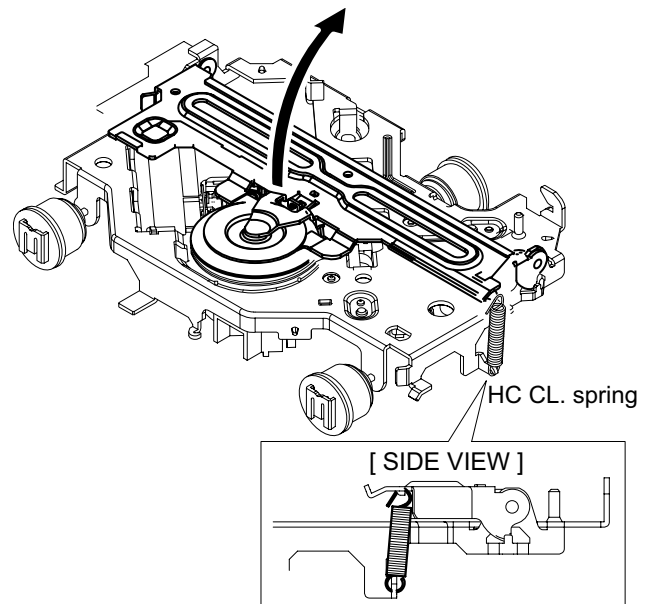

Fig.8
3.2.4 Removing the Spindle motor (See Fig.8, 9)
- (1) Remove the HC CL. Spring from the HC CL. base and the TM base, and then lift up the HC CL. base. (See Fig.8)